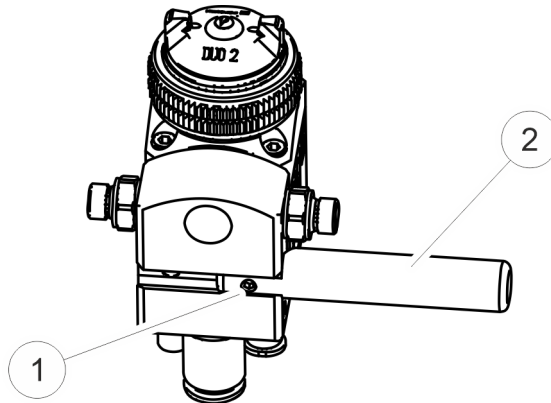

Fig. 5: Installing the automatic spray gun
2. Use the threaded pin ( Fig. 5/1) to secure the retaining pin ( Fig. 5/2) on the automatic spray gun (tightening torque **2.0 Nm**).